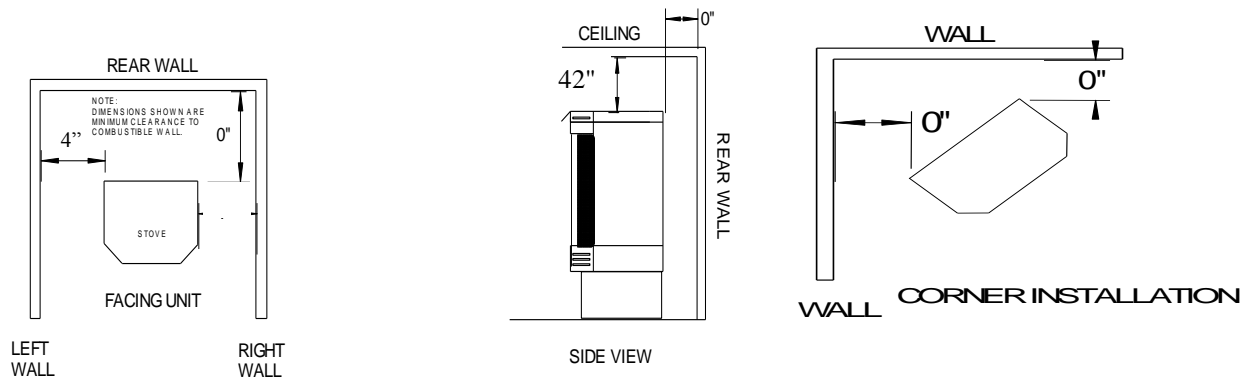

Figure 9
- (1) Determine exact position of your gas heater.
**NOTE:** For safe installation the minimum clearances must be met. See Figure 9.